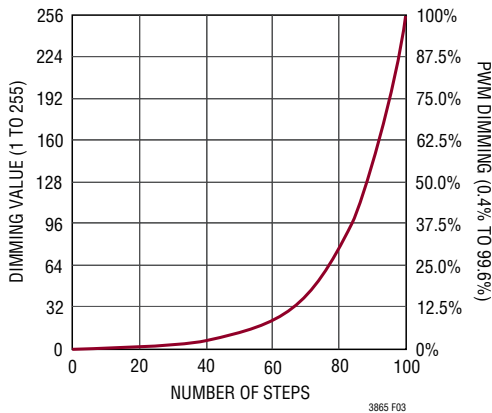
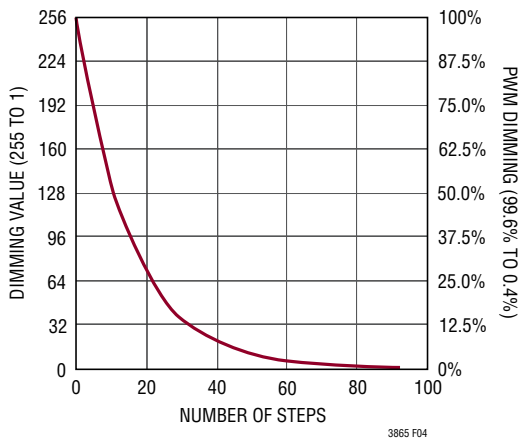

Figure 3. LT3965/LT3965-1 Up Transition Dimming Curve
Figure 4. LT3965/LT3965-1 Down Transition Dimming Curve
The number of the transitional steps depends on the distance between the initial value and the target value. The maximum number of transitional steps from 1/(256) dimming to 255/(256) dimming is 100 (see Figure 3) and the maximum number of transitional steps from 255/(256) dimming to 1/(256) dimming is 92 (see Figure 4). Each step runs 4 PWM dimming cycles, and each dimming cycle consists of 2048 RTCLK clock cycles. Then $T_{STEP} = T_{PWM} \cdot 4 = T_{RTCLK} \cdot 8192$